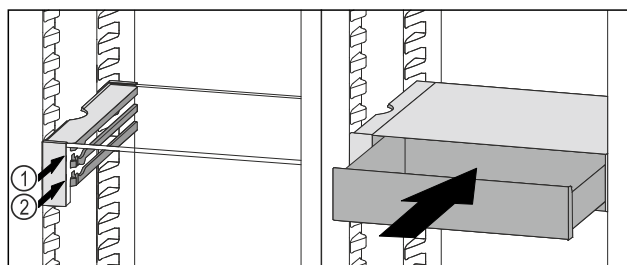

Fig. 168
- Place the VarioSafe drawer behind the stoppers on desired rib *Fig. 168 (1)* or *Fig. 168 (2)*.